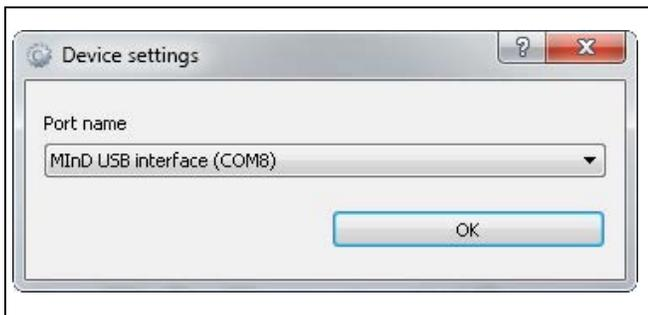

Figure 13. Device Settings Dialog
- 2) The **Device settings dialog** is shown. Select the appropriate COM port following the example in Figure 13 (note that the COM port name may be different), and click on the **OK** button.